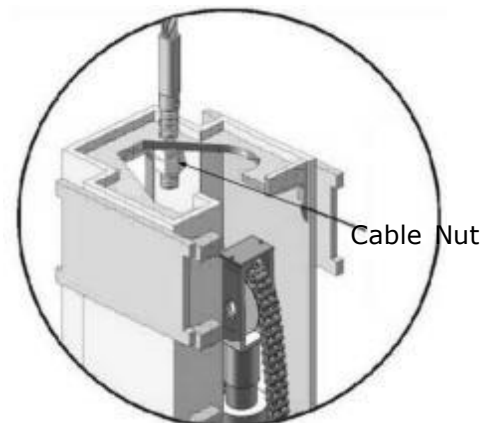

Fig. 38
1. Adjustment of synchronous cable (See Fig.38)